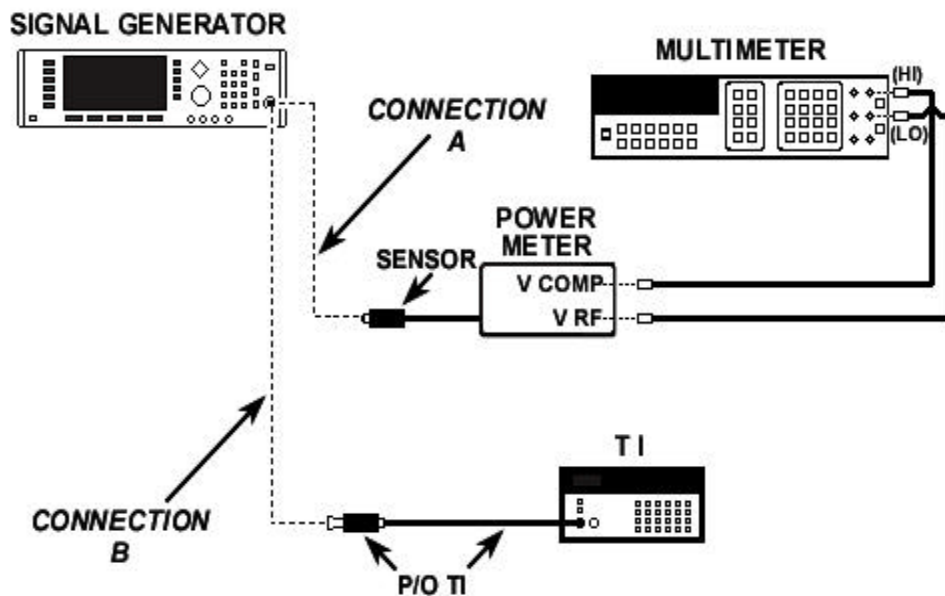

Figure 6. Frequency response - equipment setup.
- (1) Press pushbuttons as listed in paragraph **9a(1)** above.
- (2) Replace thermistor mount H75-478A with thermistor mount 8478B and allow warm-up of power meter.
- (3) Connect equipment as shown in figure 6, CONNECTION A.
- (4) Adjust signal generator for a 1 GHz, 1 mW output as indicated on power meter.
- (5) Calculate power using precision power measurement technique listed in paragraph **8a(7)** through (12) above. Record power level.
- (6) Press **MODE PWR, X** (where **X** is the frequency being measured) and **CAL FAC GHz** pushbuttons.
- (7) Connect equipment as shown in figure 6, CONNECTION B. If display does not indicate within 3 percent of power calculated in (5) above, perform **b** below.
(8) Repeat technique of (3) through (7) above for frequencies and tolerances listed in table 10.
- (1) Connect equipment as shown in figure 6, CONNECTION A.
- (2) Adjust signal generator for a 1 GHz, 1 mW output; calculate using precision power measurement technique described in paragraph **8a**(7) through (12) above.
- (3) Connect equipment as shown in figure 6, CONNECTION B.
- (4) Press **MODE**, **dB**, **0**, **CAL FAC GHz**, **0**, **CAL FAC dB** pushbuttons.
- (5) Record difference in TI display and 00.00 dBm actual.